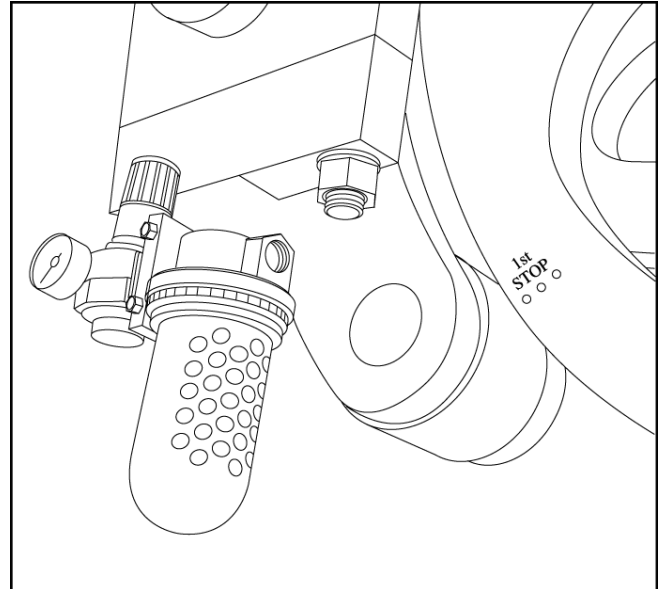

Figure 5.1 "FIRST STOP"
- 5.3.1 Run machine to "first stop" (feed box all the way forward). See figure 5.1.
- 5.5.1 Run machine to "first stop" (feedbox all the way forward) (see figure 5.1).